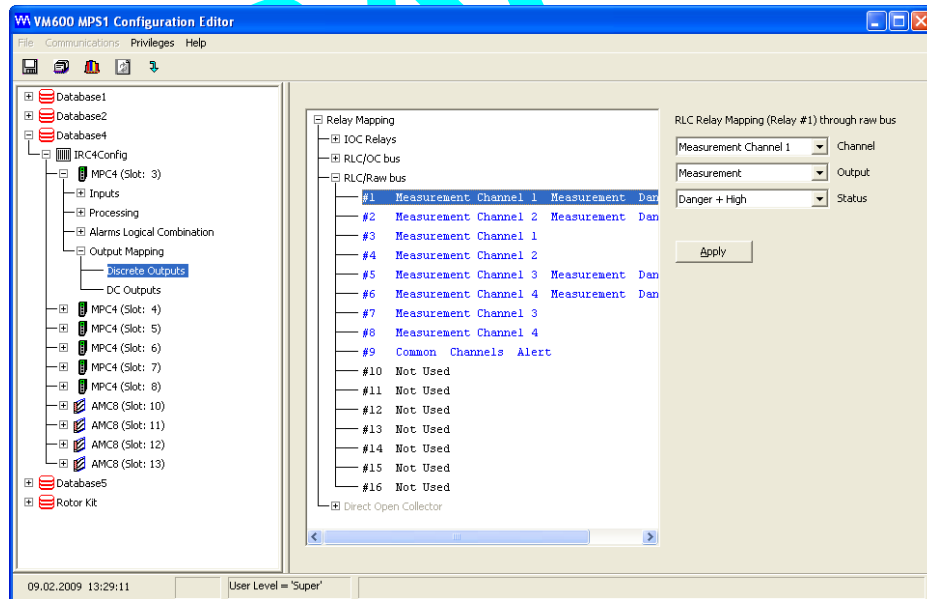

Figure 6-3 : Attributing the alarm signal “Measurement channel 1, measurement, Danger+ High” to line 1 on the Raw Bus.
- 1- Select the Output Mapping / Discrete outputs branch of the configuration tree, as shown on Figure 6-3.